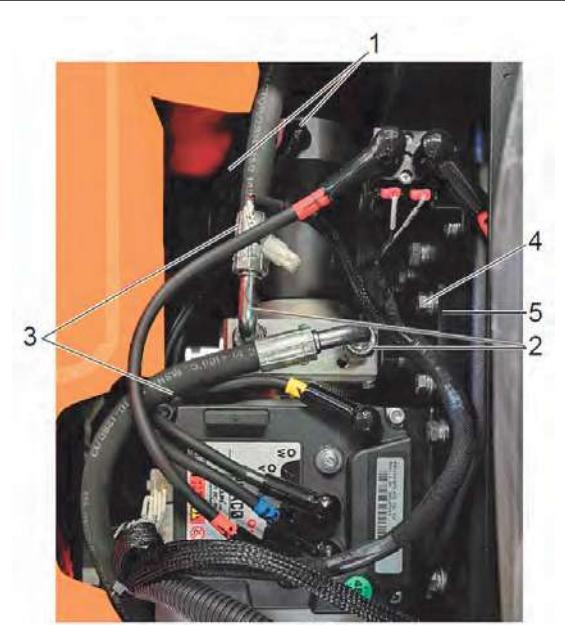

Figure 5-7 Steering Pump and Motor Assembly
4. Remove the cables (1, Figure 5-7) from the pump contactor and pump motor.
5. Loosen the two connectors (2) and remove the hoses (3) from the pump body.